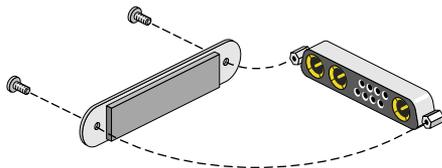

Figure 1-22 Installing the 13W3 Cover
14. Insert a screw in each hole of the 13W3 cover, then tighten each screw to secure the cover to the VPro Graphics Board, as shown in Figure 1-22.